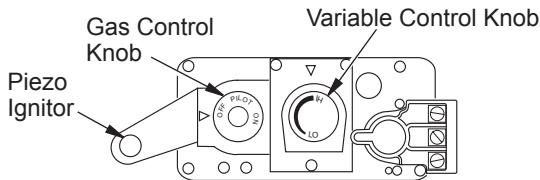

Figure 45 - Control Valve
7. Turn gas control knob counterclockwise  to "PILOT". (see Figure 45)
8. Push in gas control knob all the way and hold. Immediately light the pilot by repeatedly depressing the piezo spark ignitor until a flame appears. Continue to hold for about one (1) minute after the pilot is lit. Release gas control knob and it will pop back. Pilot should remain lit. If it goes out, repeat steps 5 through 8.